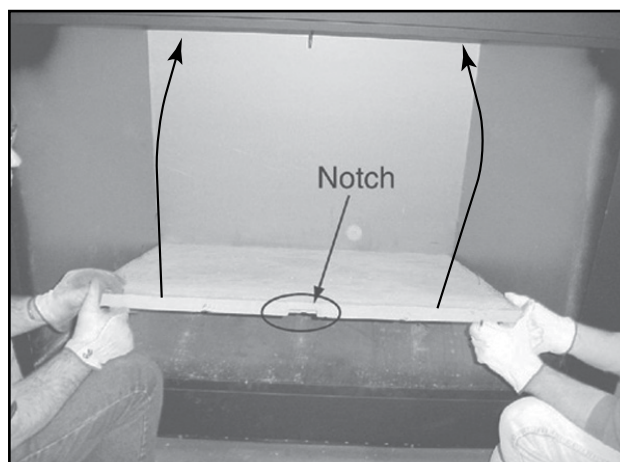

Figure 8.3 Install Back Refractory
- Position the bottom of the back refractory to the back of the fireplace and center from side to side. See Figure 8.3. Be sure to position it so the retainer notch is at the top.